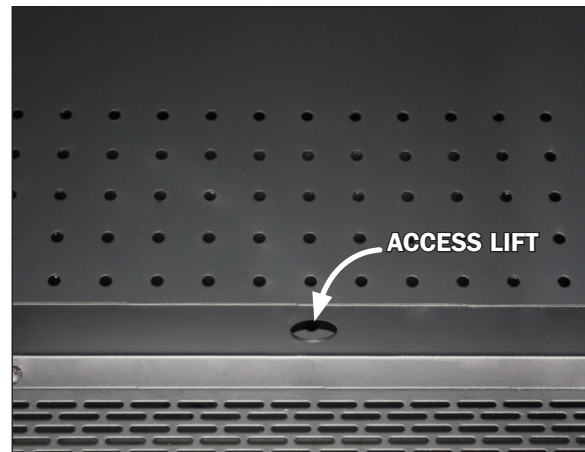

Fig. 22 Base deck pre-drilled access lift
2. To reach the fans and pressure plate first remove the base deck with help of the pre-drilled access lift supplied (Fig. 22). **Note: It is recommended that more than one person lift the deck.**